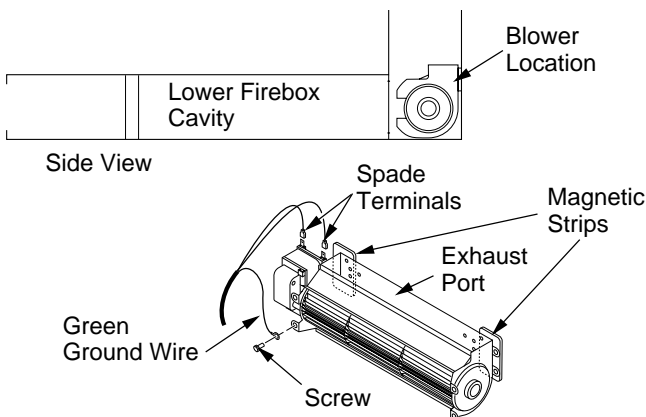

Figure 25 - Blower Model BK
1. Attach the power cord to the blower motor by firmly pushing the two female terminals at the end of the power cord onto the two spade terminals on the blower motor (see Figure 25, page 17).
2. Attach green ground wire from power cord to blower housing using screw provided (see Figure 25, page 17). Tighten screws securely.
3. Place the blower against the lower rear wall of the firebox outer wrapper with the exhaust port directed upward. The blower will fit inside the back opening and be held in position against the back wall by the magnets (see Figure 25, page 17).